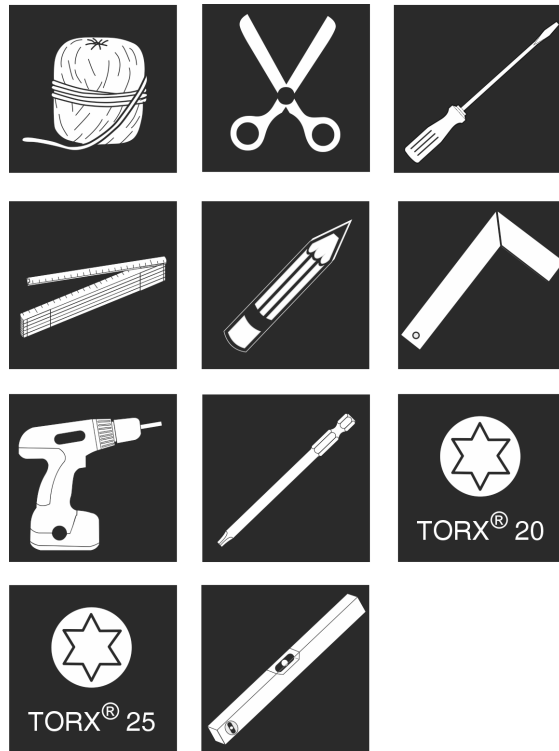

Fig. 9
1. Have your tools ready. Fig. 9 ()